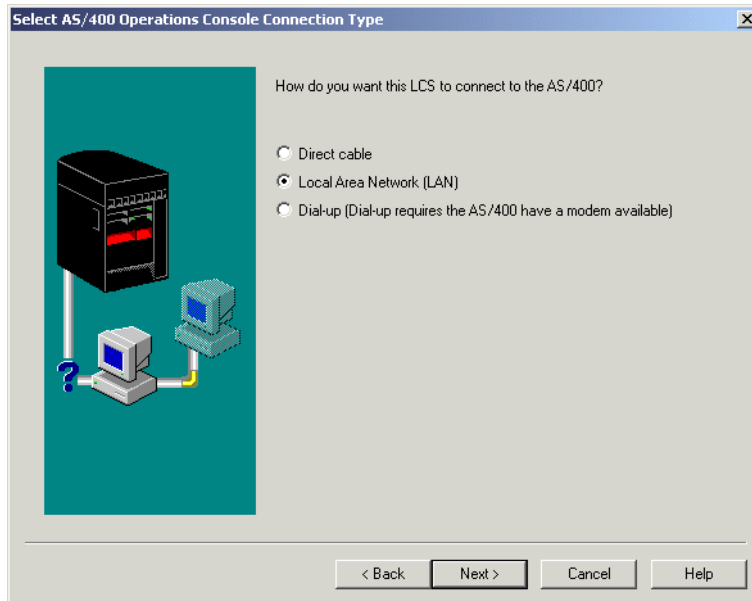

Figure 7-22 Select AS/400 Operations Console Connection Type display
3. On the next display (Figure 7-22), the wizard asks how you want the LCS to connect to the AS/400 system. Click **Local Area Network (LAN)**. Then, click **Next**.